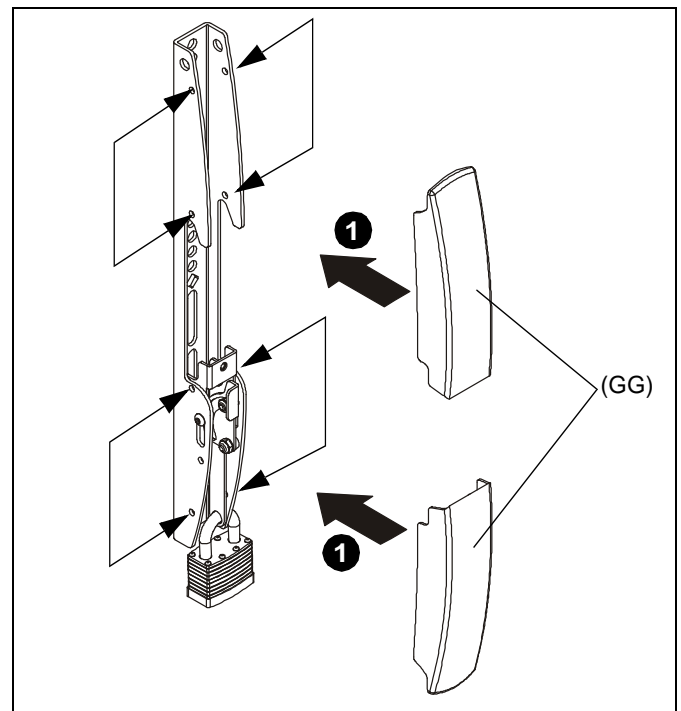

**Figure 12**
1. **OPTIONAL:** Add padlock (not included) to each interface bracket to lock display to ceiling mount. (See Figure 12)